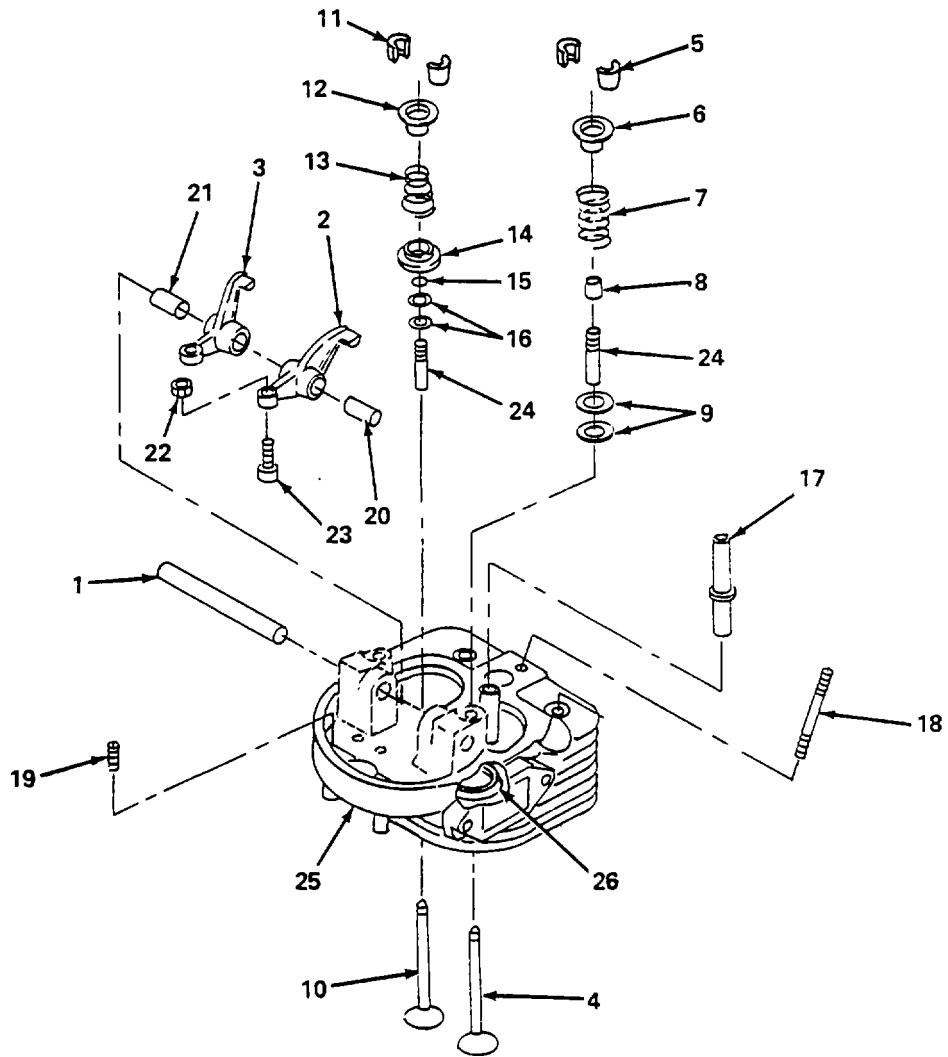

Figure 5-43. Cylinder Head Assembly, Repair.
- c. *Repair.* (figure 5-43)
- (1) Remove cylinder head assembly (para. b.).
- (2) Press out rocker arm shaft (1) and remove intake rocker arm (2) and exhaust rocker arm (3).
- (3) Using valve spring compressor, compress intake valve (4) and remove two retainer halves (5), collar (6), spring (7), seal (8), two washers (9), and valve (4).
- (4) Using valve spring compressor, compress exhaust valve (10) and remove two retainer halves (11), collar (12), spring (13), roto cap (14), retaining ring (15), two washers (16), and valve (10).
- (5) Remove check valve (17).
- (6) Remove two studs (18).
- (7) Remove two studs (19).
- (8) Clean all items with dry cleaning solvent and dry thoroughly.